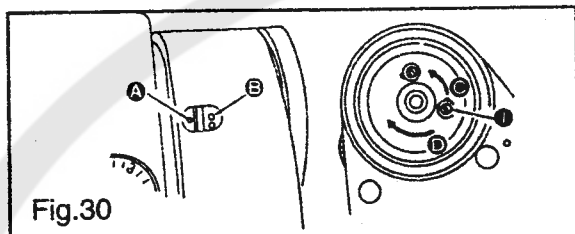
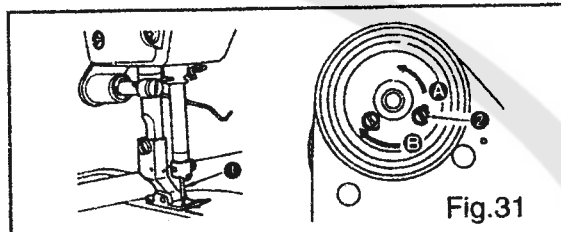

Fig.30
Fig.31
- 1) When sewing heavy-weight materials, move thread guide ① to the left (in direction A) to increase the length of thread pulled out by the thread take-up.
- 2) When sewing light-weight materials, move thread guide ① to the right (in direction B) to decrease the length of thread pulled out by the thread take-up.
- 3) Normally, thread guide ① is positioned in a way that marker line C is aligned with the center of the screw.
26. ADJUSTING THE NEEDLE STOP POSITION (Fig.30.Fig.31)